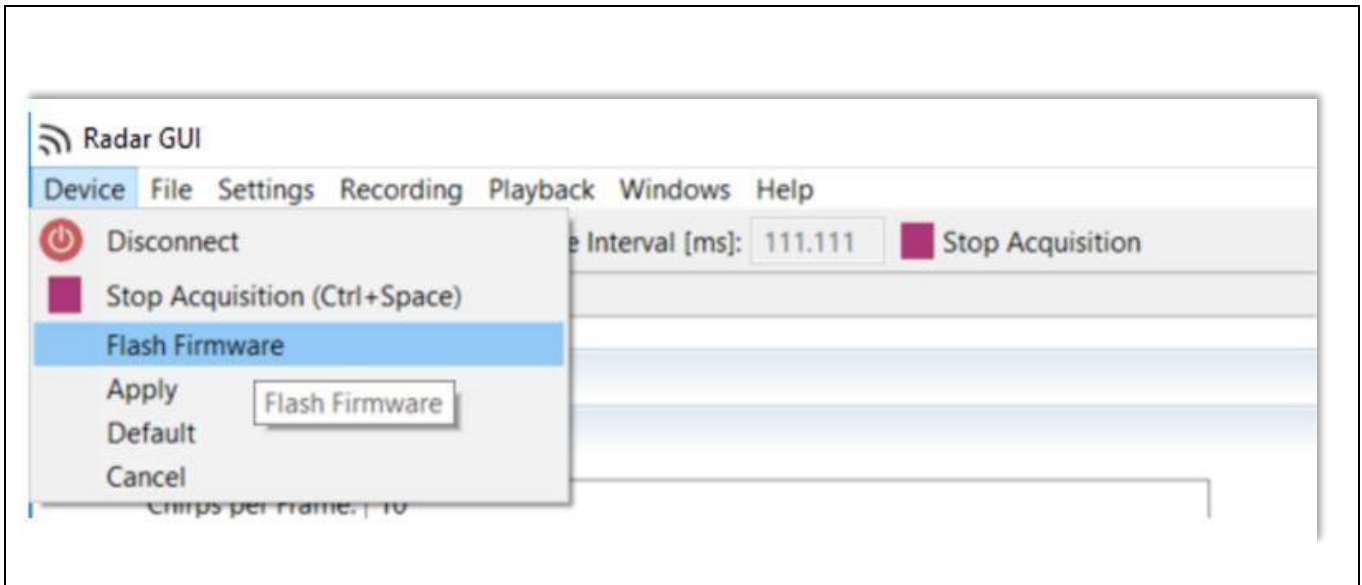
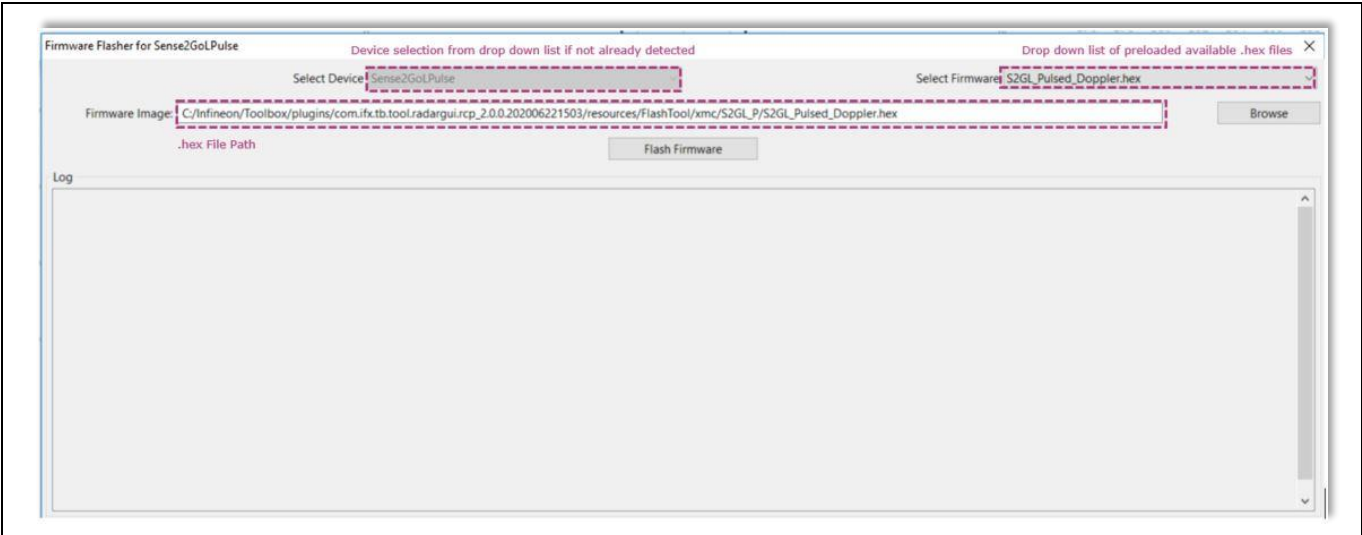
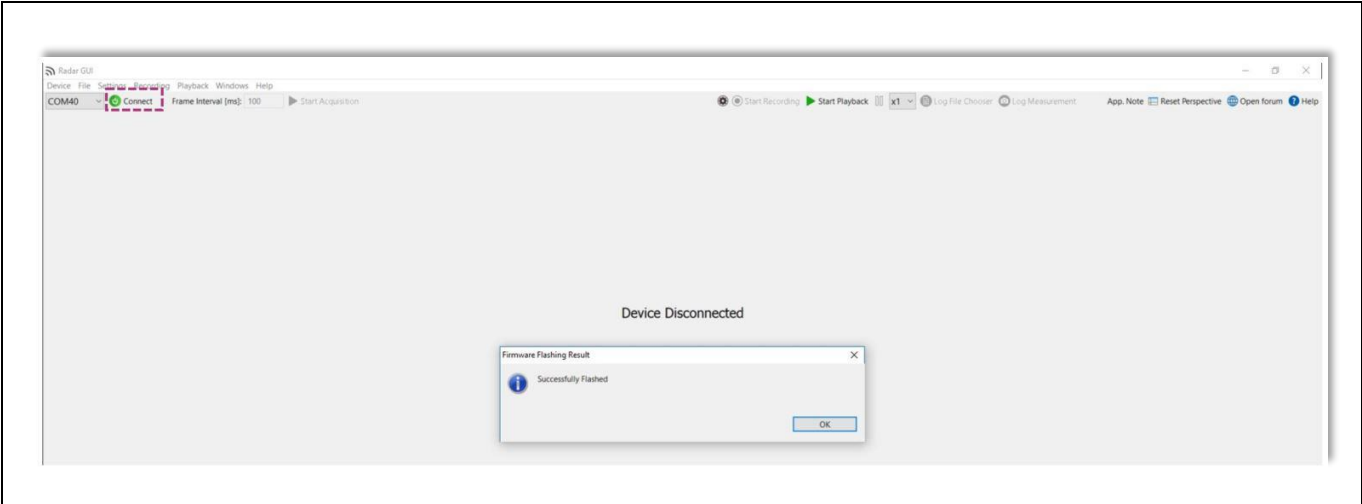

Figure 18 Firmware flashing via Radar GUI
Figure 19 Firmware flashing via Radar GUI
Figure 20 Firmware flashing via Radar GUI
- In addition to XMCT™ Flasher, Radar GUI offers firmware flashing capability as well. In order to flash a new (*.hex) file (e.g. P2G_FW.hex), simply go to **Device** tab in **Main Menu** and select **Flash Firmware** option, as shown in Figure 18. A dialog box will appear where you can give path for your (*.hex) file or select from a preloaded list of available (*.hex) files (**Select Firmware**), as shown in Figure 19. You can also select your device, if not already detected by Radar GUI, from the drop down list of **Select Device**. Pressing the **Flash Firmware** option in the dialog box will start flashing the new (*.hex) file into the device. Successfully Flashed message would be generated in the end and Radar GUI can start data acquisition again if the Connect button is pressed, as shown in Figure 20.